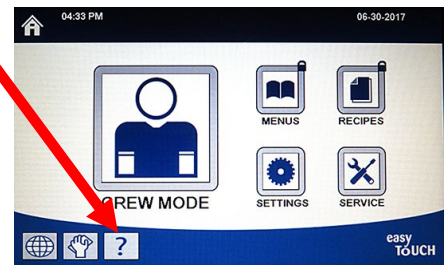

Figure 6
18. Press the **?** button (see Figure 6).